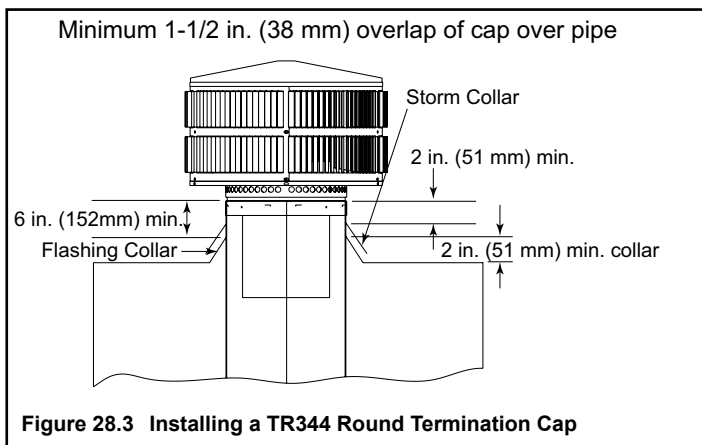

Figure 28.3 Installing a TR344 Round Termination Cap
- Install the chimney sections up through the chase enclosure. When using a Round Termination Cap, the uppermost top section of pipe must extend 6 in. (152 mm) above the top of the flashing collar to allow installation of the storm collar and termination cap. See Figure 28.3.